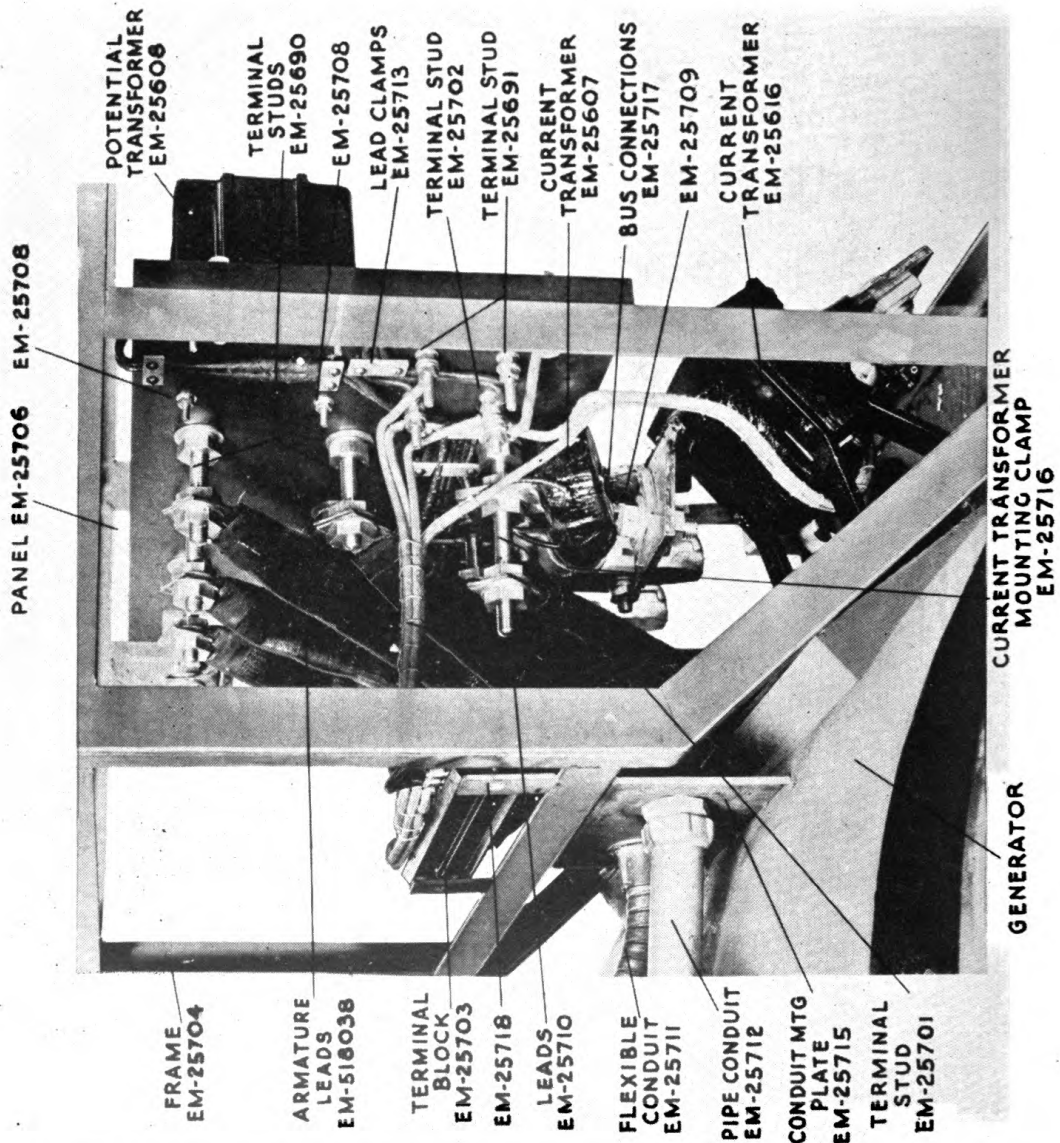

FIG. 17—Terminal Box—Side View
- Figure 17 Terminal box—side view.